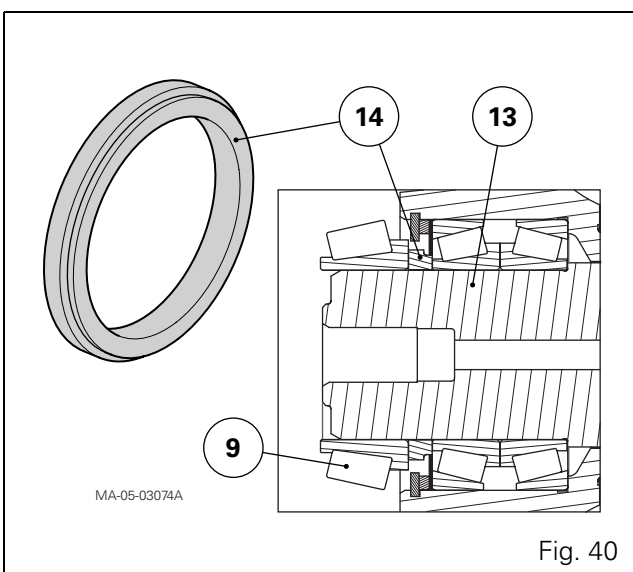

Fig. 40
107. Fit the spacer (14) and bearing cone (9) on the shaft (13) (Fig. 40).
NOTE: Ensure the spacer shoulder is positioned the right way (Fig. 40).